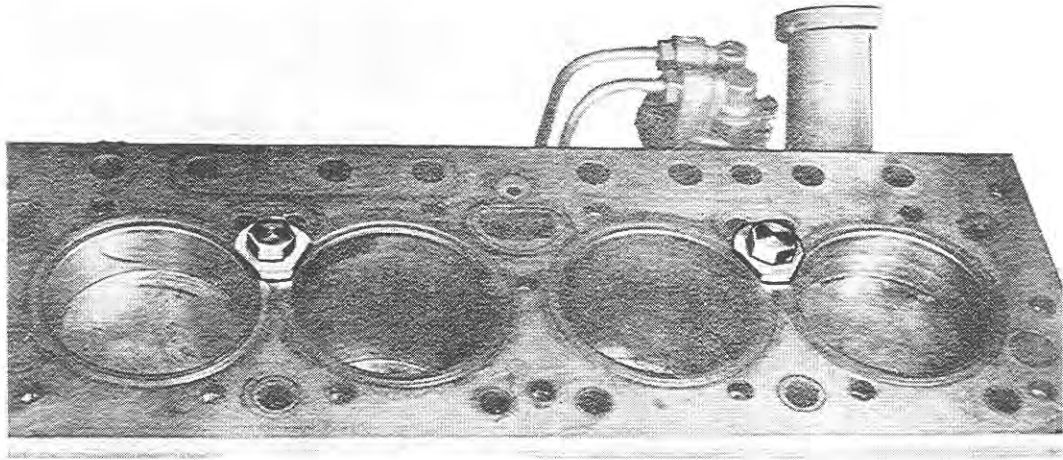

Fig. 1
**IMPORTANT:** When undertaking work which requires the engine to be turned after removal of the cylinder head, it is recommended to fit liner retainers MIMO so that the liners do not lift out of the block when the crankshaft is turned (Fig. 1).